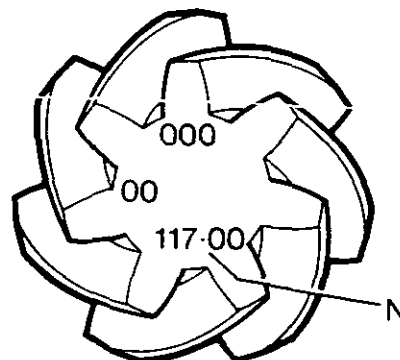

FIGURE 16 BEVEL PINION MARKS
10. Look at the end face of the bevel pinion. Make a note of the Apex Distance N. See Figure 16 for an example.